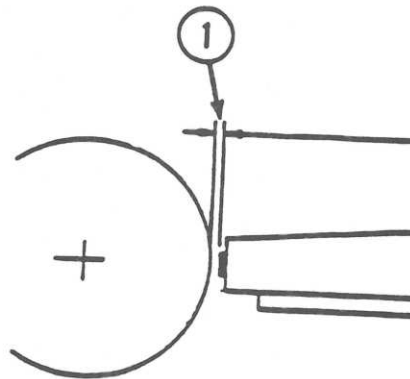

FIGURE 16
2. Using a feeler gauge, check that the gap between the head needle and the platen is .06mm or .024 +/- .001 inches. (See Figure 16, #1.) This is the right gap for a single sheet of paper. Try sliding through the platen a single sheet of paper. It should go through with just a little drag.